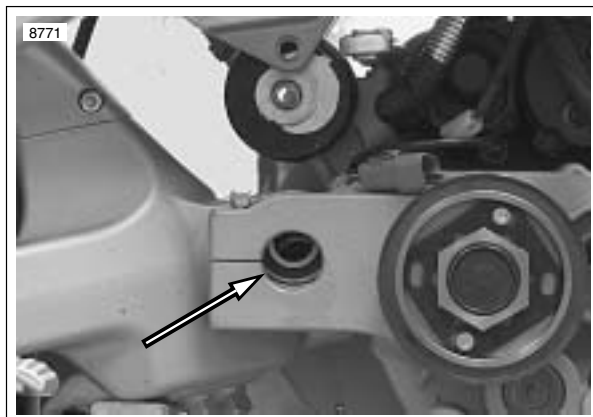

Figure 3-38. Aligning Swingarm to Crankcase for Pivot Shaft Installation (Typical)
3. See Figure 3-38. With engine on a flat scissors jack, raise engine and chassis until swingarm and rear isolator mount align and pivot shaft can be installed.